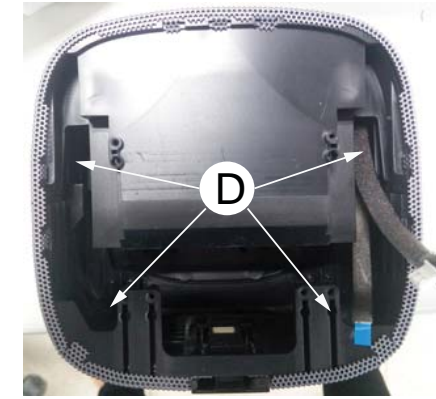

Figure 5
- 1) Loosen 4 screws "D" as shown in figure 5 to remove the top cover Ass'y .